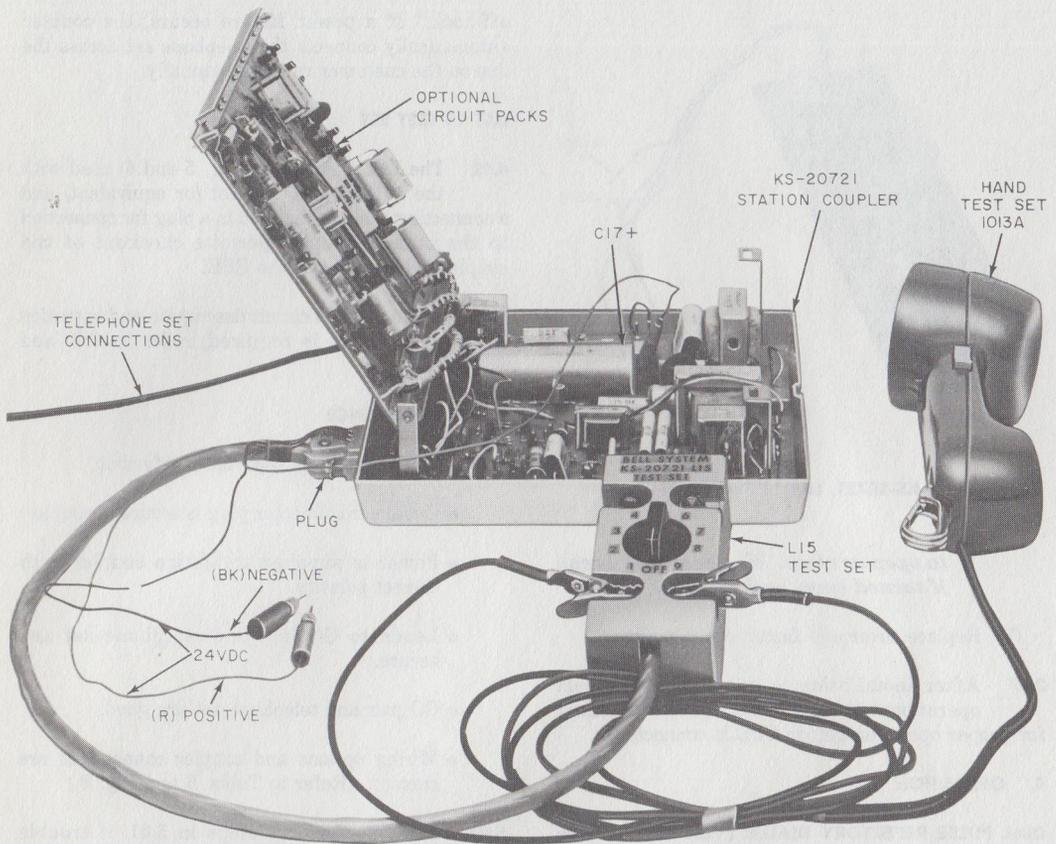

Fig. 5—KS-20721 Station Coupler With KS-20721, List 15 Test Set and 1013A Hand Test Set
- Set, Test, KS-20721, L15 (Fig. 5)
**2.04** The KS-20721, List 15 test set plugs into the connector on the station coupler and is used with a 1013A hand test set (or equivalent) to check the operation of the coupler with the CPE disconnected (Fig. 5 and 6).
4.02 The List 15 test set (Fig. 5 and 6) used with the 1013A hand test set (or equivalent) and a connecting cable terminated in a plug for connection to the station coupler permits checkout of the coupler independent of the CPE.
3	Connect a 1013A (or equivalent) hand test set to terminals provided on test set (Fig. 5).
6	Connect alligator clip on wire coming from the test set plug to the positive (+) terminal of capacitor C17 in the station coupler (Fig. 5).